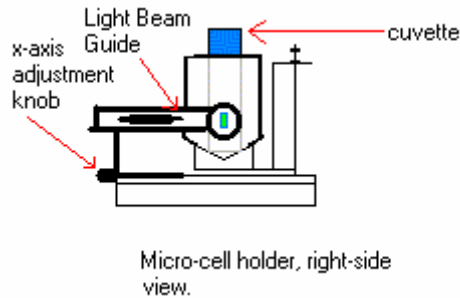

Figure-19 Micro-Cuvette Holder Right-side View
Step 11 If the light is left or right of the center of the cuvette, then the x-axis will need adjustment. For the x-axis adjustment, turn the white adjustment knob. The white adjustment knob is located at the front-right of the holder (Figure-19).